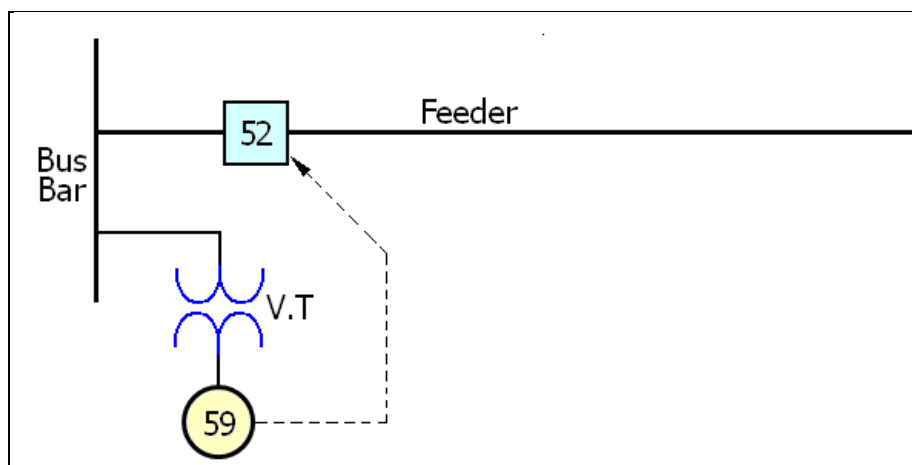
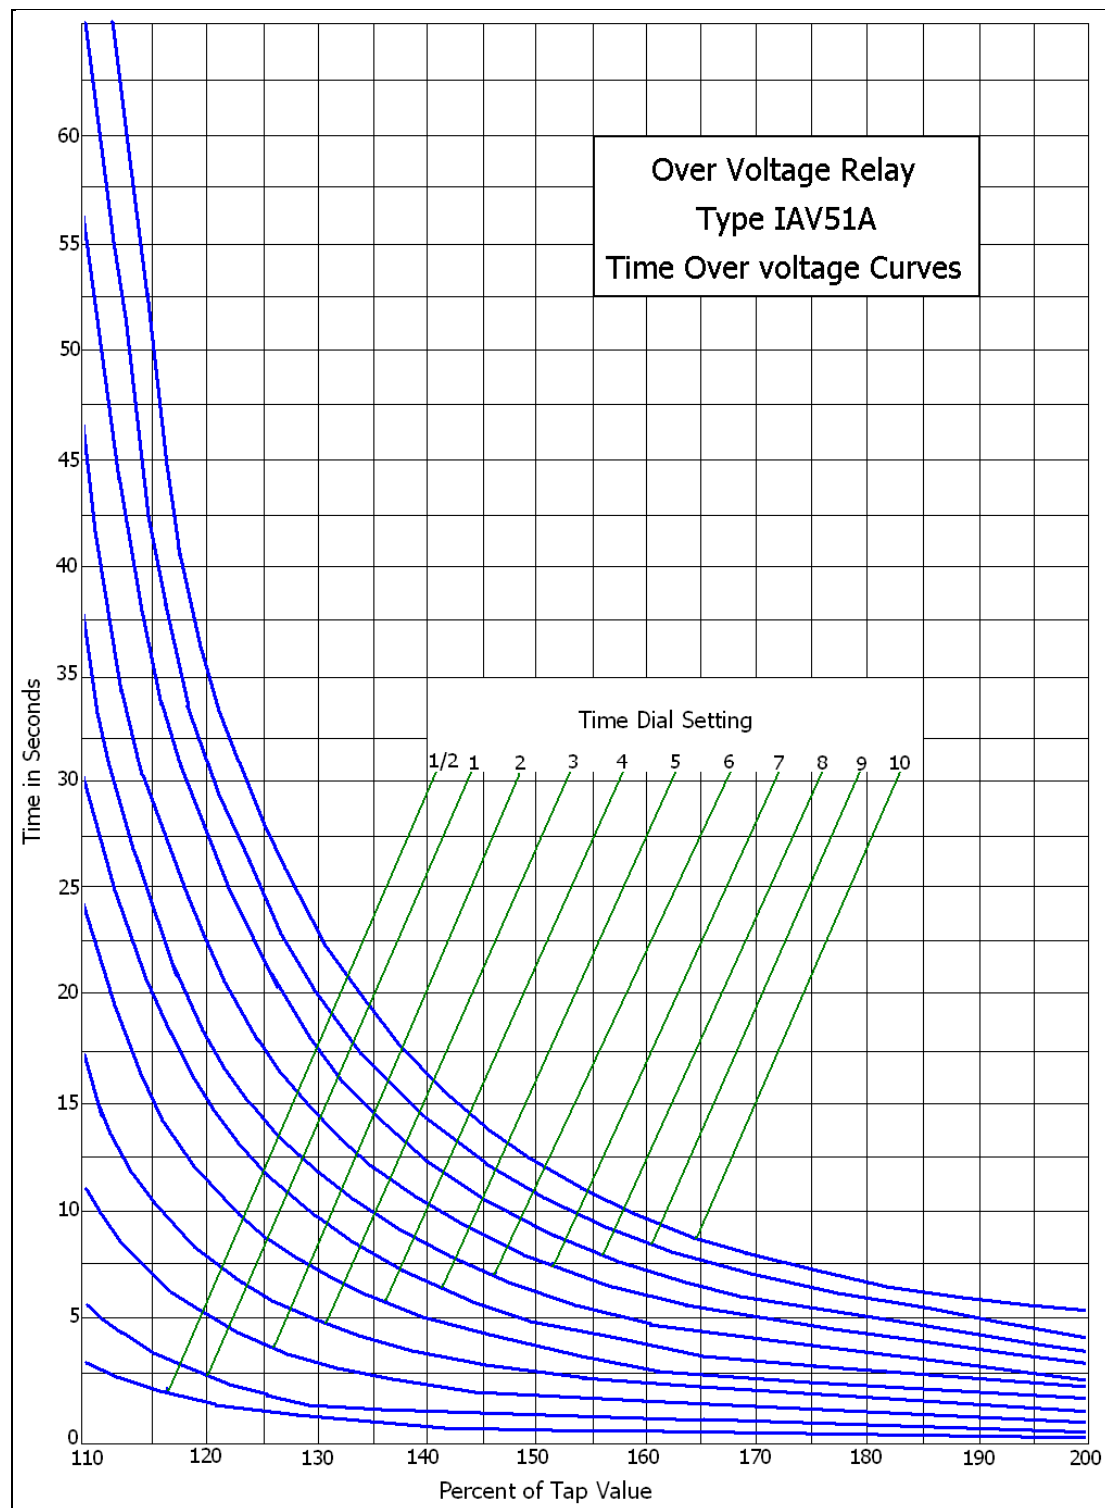

Fig. 1.3-9
Fig. 1.3-10
11. For the circuit shown in Fig. 1.3-9, the relay voltage tap setting is 105V, the relay rating is 115V, and time dial is 5. If the relay voltage reaches 142V, determine the trip time of the relay, using type IAV-51A and its characteristics is shown in Fig. 1.3-10.